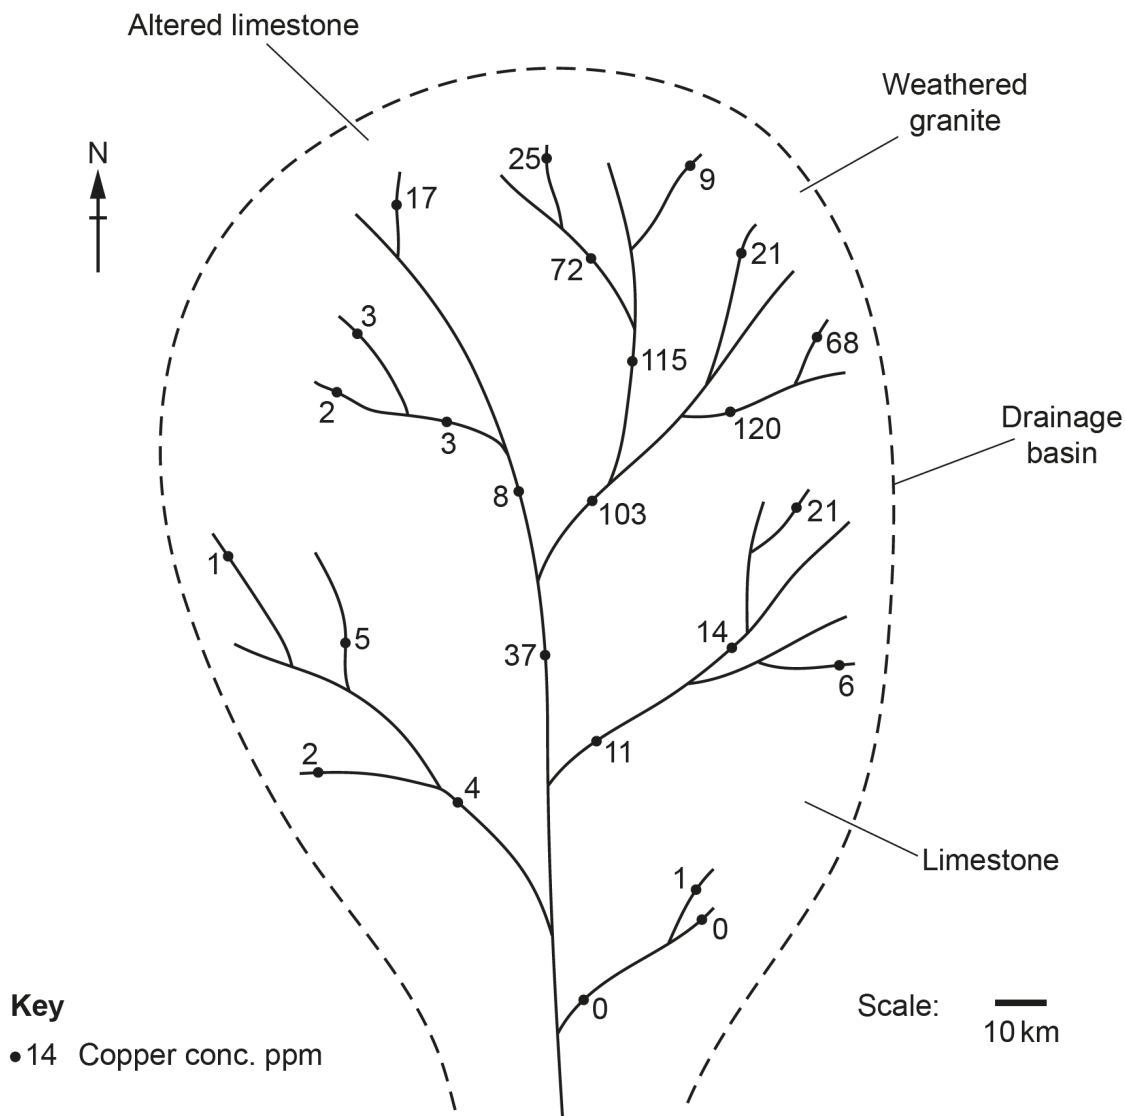

Fig. 5.1
- 5 (a) A mineral exploration company are analysing data to find a viable copper ore deposit. Fig. 5.1 shows stream sediment analysis data within the area of interest.
- (i) Circle an area on Fig. 5.1 that shows an anomalous level of copper in the stream sediments.
- (ii) **Shade** an area **on Fig. 5.1** where the copper ore deposit is most likely to be found. [1]